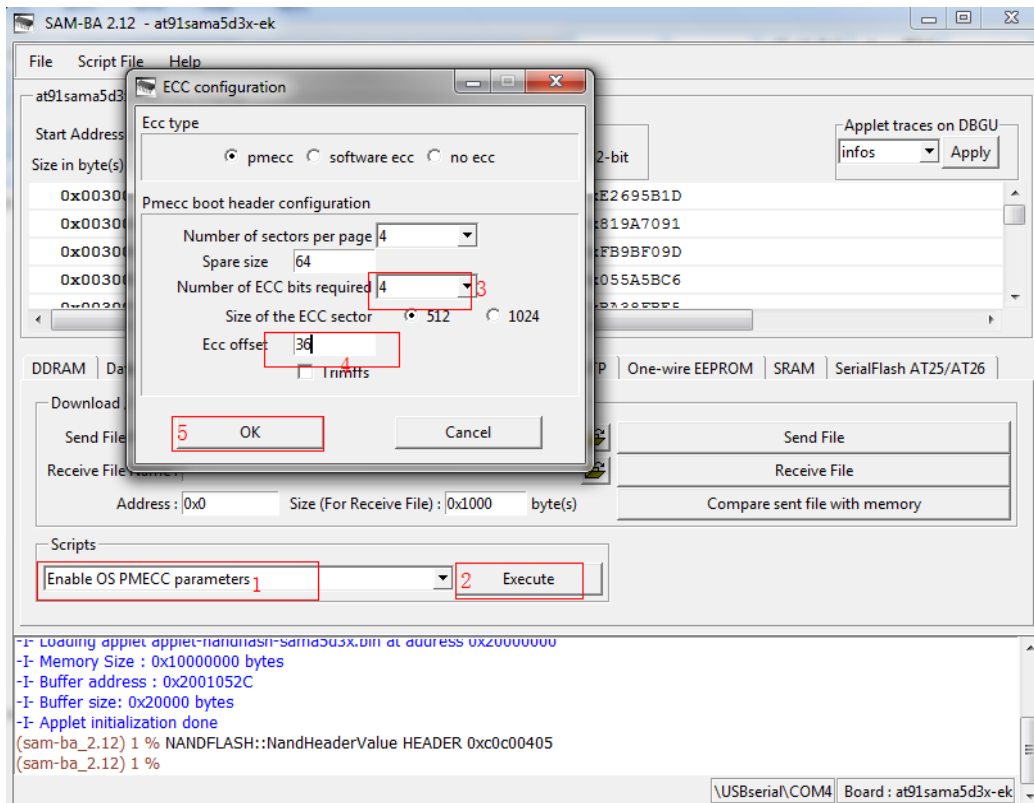

Figure 3-8
② Select **"Enable OS PMECC parameters"** in Scripts tab and then click **"Execute"**, Settings refer to figure 3-8 (Note :do not select Trimffs):